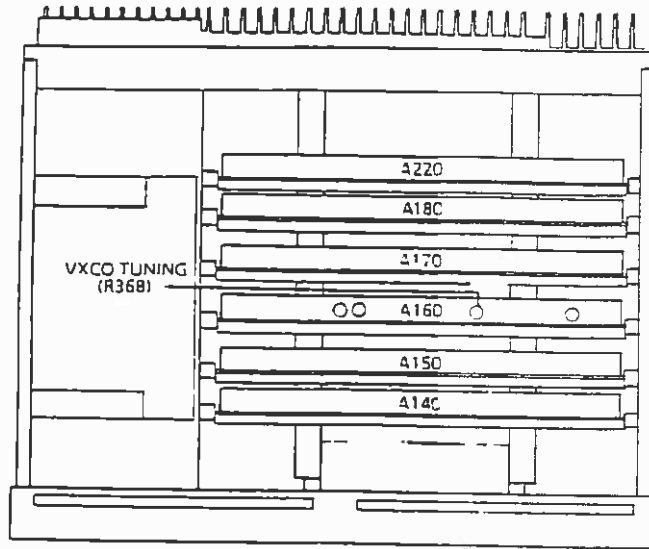

Fig. 4-2 Location of the potentiometer VCXO TUNING, R368 (instrument seen from above)
- ▶ Adjust the frequency accuracy to 64 MHz \pm 10 Hz using the potentiometer VCXO TUNING (fig. 4-2).